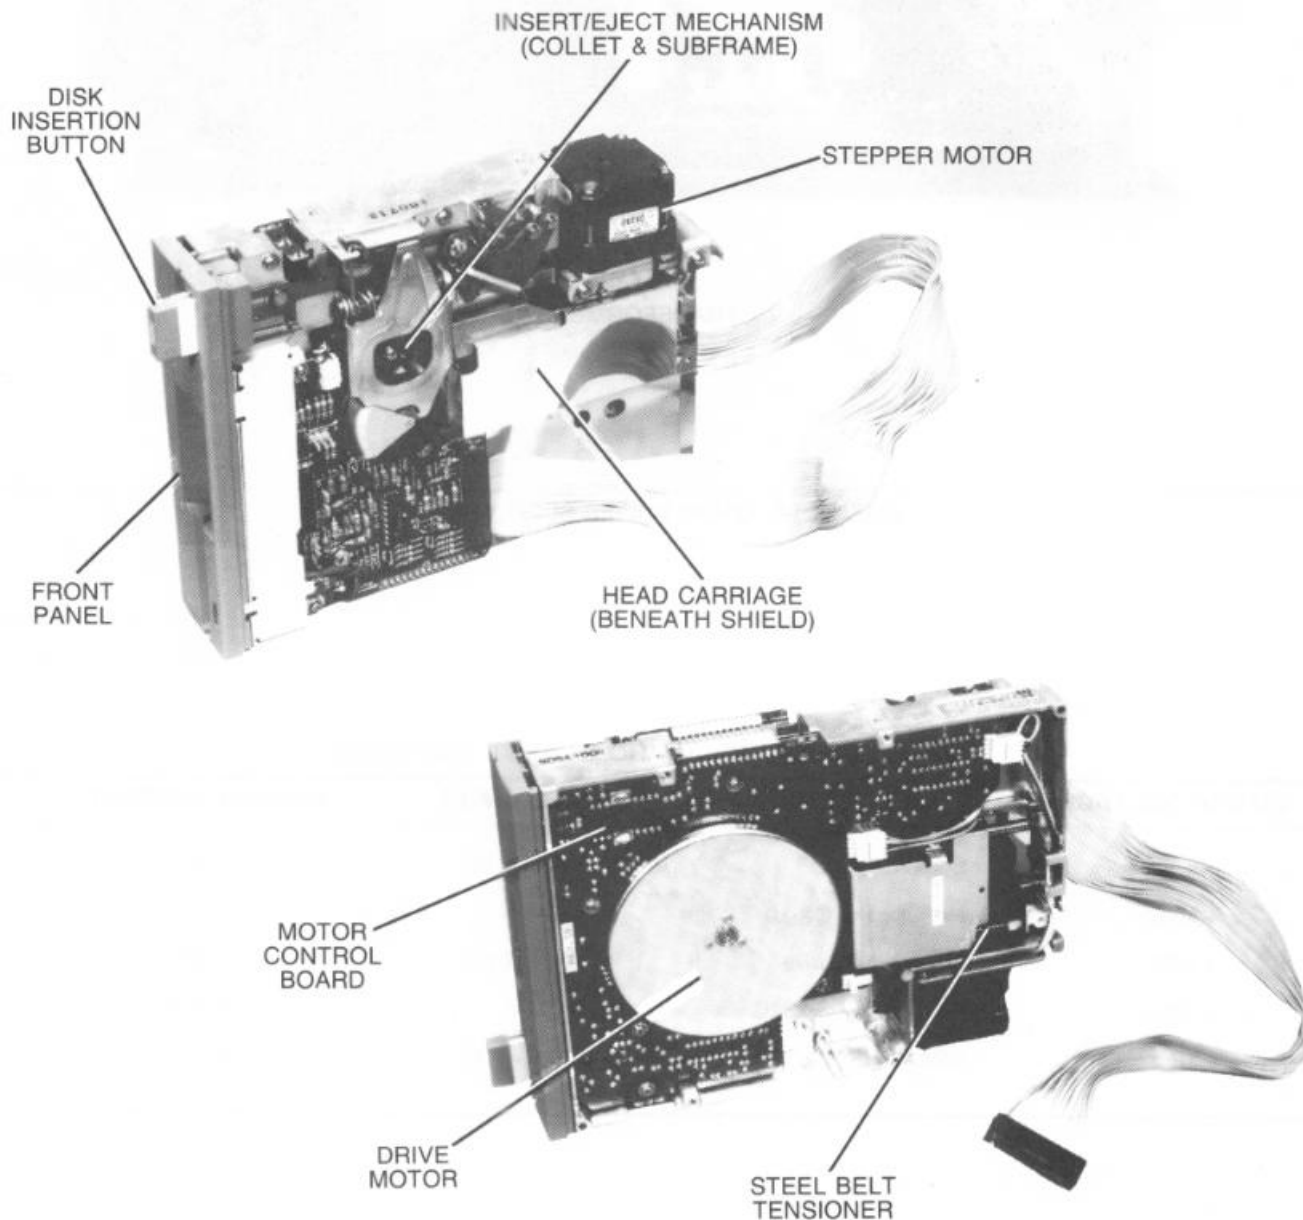

FIGURE 1-7. SD-543 FLOPPY DISK DRIVE COMPONENT LOCATIONS
1.3.2 Floppy Disk Drive Components (Figure 1-7)